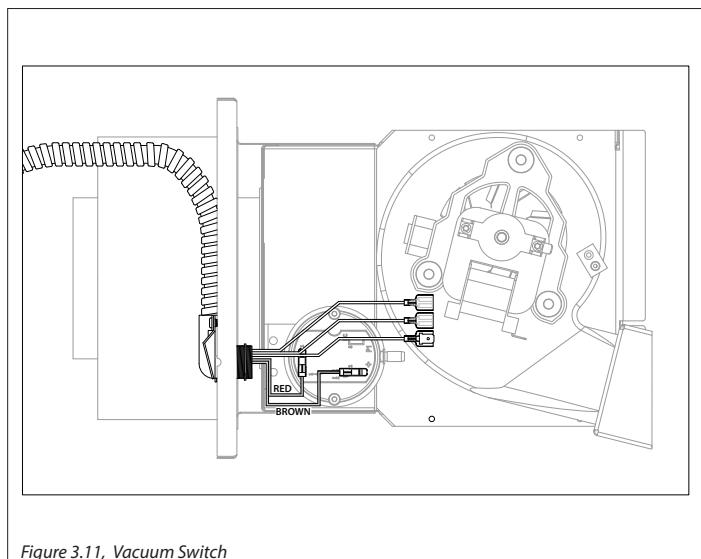

Figure 3.11, Vacuum Switch
5. Attach the red and brown wires to the vacuum switch as shown in Figure 3.11.